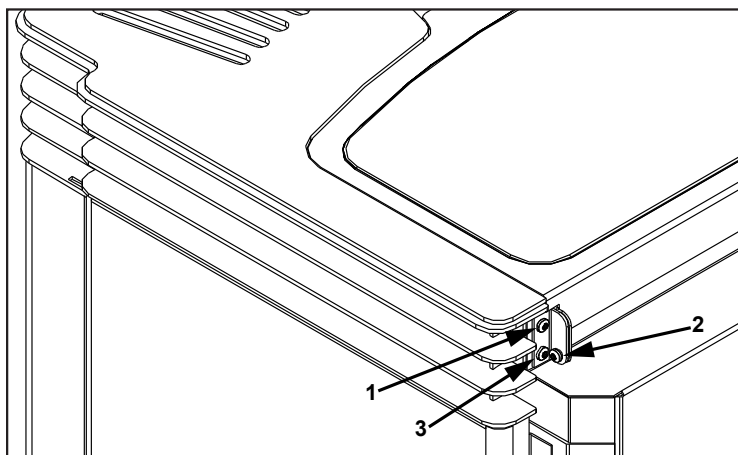

Figure 31: Installing Hopper Lid.
1. Attach the hopper brackets to the back of the unit with a screw in each top hole of the brackets (#1 in Figure 31). Do not tighten these screws until all six (6) screws are in place.
2. Lay the hopper lid in place, slide the bushing into the bracket, and attach the lid to the brackets (#2 in Figure 31). The screw must go through the bushing in the bracket then into the hopper cover.
3. Install the screw in the bottom hole on both brackets (#3 in Figure 31).
4. Let the hopper lid lay flat on the stove top then tighten the four (4) bracket screws.